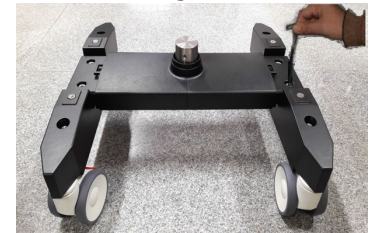

Fig. 32
8. Align the holes of the centre support with the holes of both wheel supports and tighten the screws as shown in Fig.32. using the 8mm Allen wrench.
9. Remove the ring, and open 3 screws from shaft as shown in Fig.32. Unscrew with 4mm Allen wrench as shown in Fig.33.